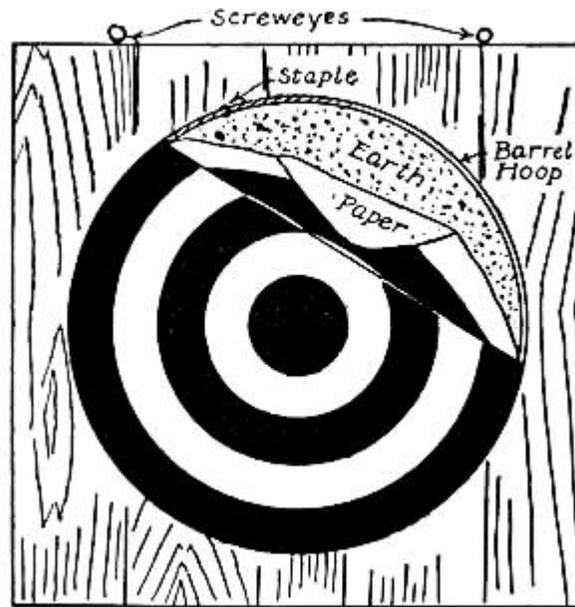

FIG. 239.—A Barrel-hoop Target.
**A Boy's Target** is shown in Fig. 239. It consists of a barrel-hoop, fastened by means of staples to a wooden platform, as shown in the illustration. Pack the inside of the hoop with earth which has been moistened sufficiently to make it hold together, and place a piece of paper over it, pasting it to the edges of the hoop. The paper will be stretched as tight as a drumhead when dry. Five rings should then be painted upon it, as shown in the illustration. Fasten screw-eyes in the top of the platform, and hang the target by these wherever you wish to use it.